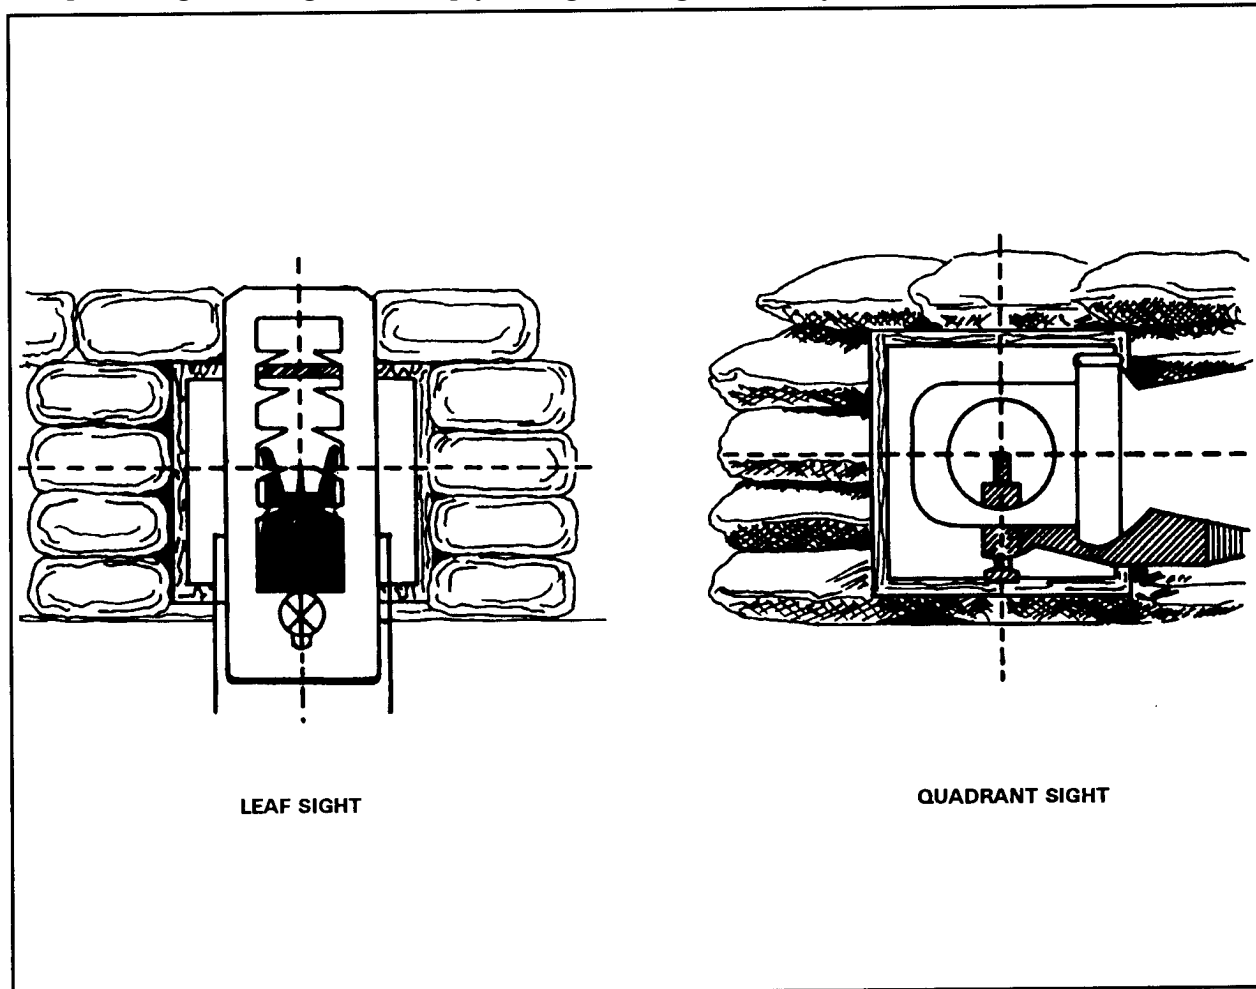

Figure 5-9. Sight pictures for leaf and quadrant sights.
(1) **Aligning sight.** When using the leaf sight, align it with the front sight post of the M16. When using the quadrant sight, align its rear sight aperture with its front sight post. Picture a horizontal line through the center of the leaf sight or rear sight aperture. The top of the M16's front sight post should touch this line. Picture a vertical line through the center of the leaf sight or rear sight aperture. This line should vertically dissect the front sight post (Figure 5-9).